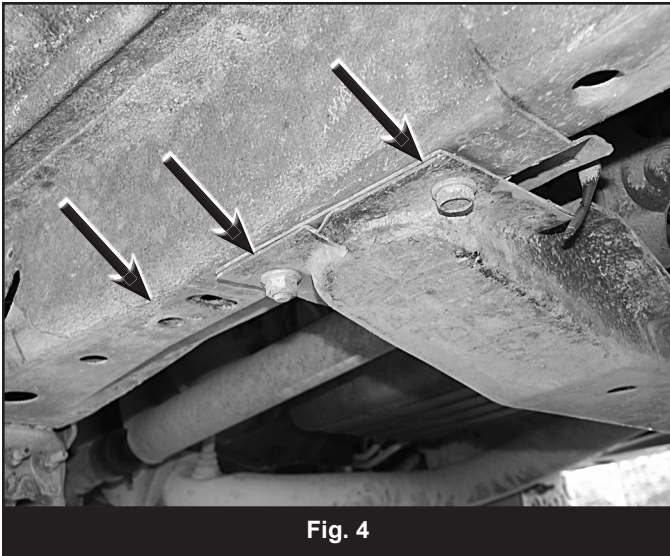

Fig. 4
10. Remove the nuts/bolts retaining the crossmember to the frame and remove the crossmember from the vehicle (Fig 4).
11. Some models may use a combination of threaded studs/nuts and bolts to fasten the OE crossmember (Fig 4). If this is the case, the threaded studs must be removed. The studs can be removed by either clamping vise grips on it, using the double nut method or tack welding a nut to the stud and using a wrench to remove it.
12. Locate the third threaded hole in the uni-body rails just ahead of the two that were used to mount the OE crossmember (Fig 4). Ensure that the threads are clean of dirt and rust (10mm-1.5). These holes will be used to mount the new crossmember in conjunction with the original two holes (per side).